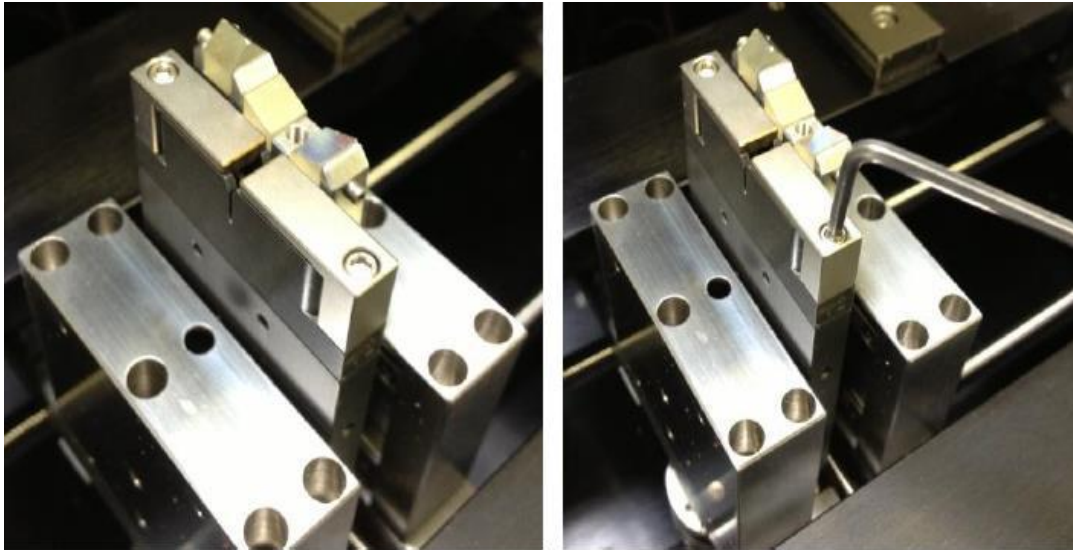

Figure 49 *Remove the screws on the stainless steel cover plates*
5. Remove the 2 screws that secure the stainless steel cover plates (as seen in Figure 49) onto the furnace using a 5/64" hex key or balldriver.